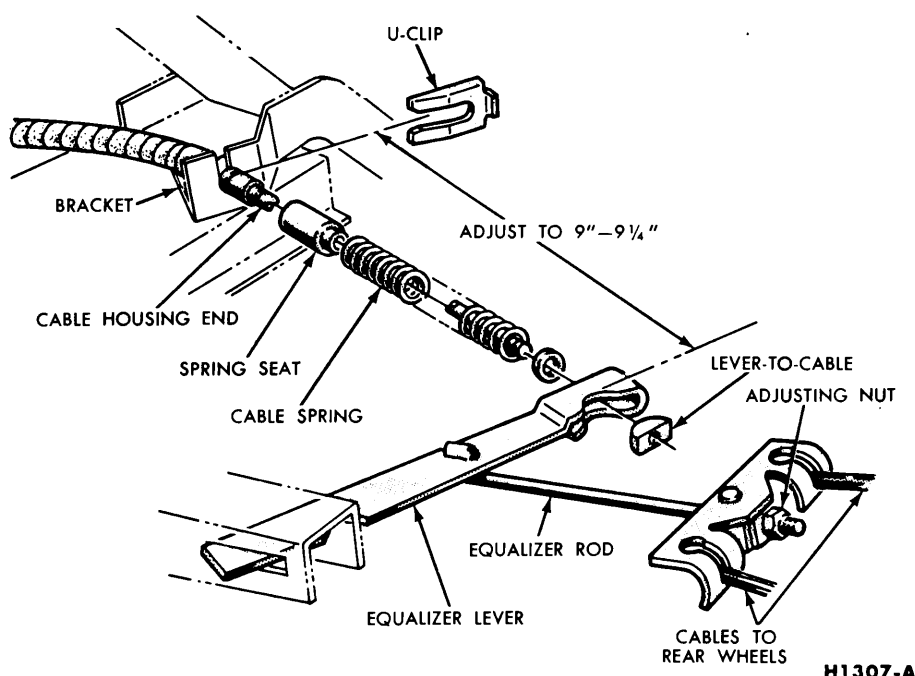

FIG. 1—Parking Brake Adjustments
cable to the dimension shown in Fig. 1.
6. While turning the rear wheels in a rearward direction, turn the adjusting nut against the equalizer until a moderate drag is felt (Fig. 1).